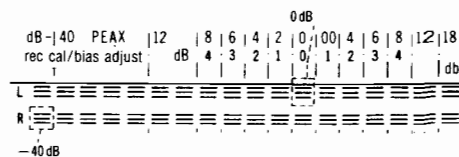

Fig. 24
6. At this time, check that -40dB indicator is dimmed (intermediate brightness between full brightness and light-out: See fig. 24).
9. At this time, check that 0dB indicator is dimmed (intermediate brightness between full brightness and light-out (See fig. 24).